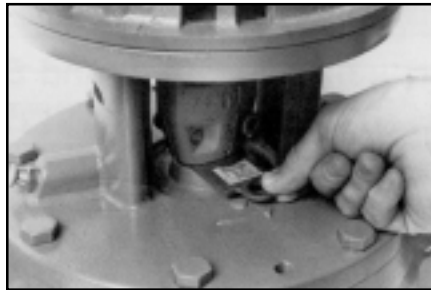

Figure 6
- Insert the Grundfos adjusting fork underneath the coupling and lower the coupling until it touches the adjusting fork. See Figure 6.